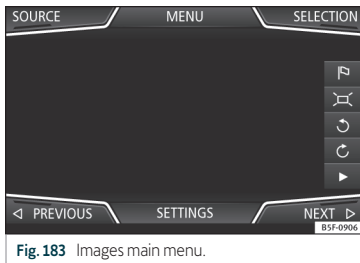

Fig. 183 Images main menu.
- Press the **(SOURCE)** >>> Fig. 183 function button and select the data storage device where the images are stored.